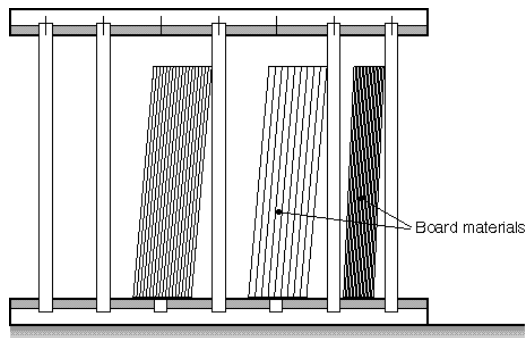

Figure 5 Pigeon hole stacking
- An alternative to storing the materials flat is the 'pigeon hole' or 'toast rack' system (Figure 5). Boards are stored in compartments preventing sideways movement and allowing the removal of individual boards.